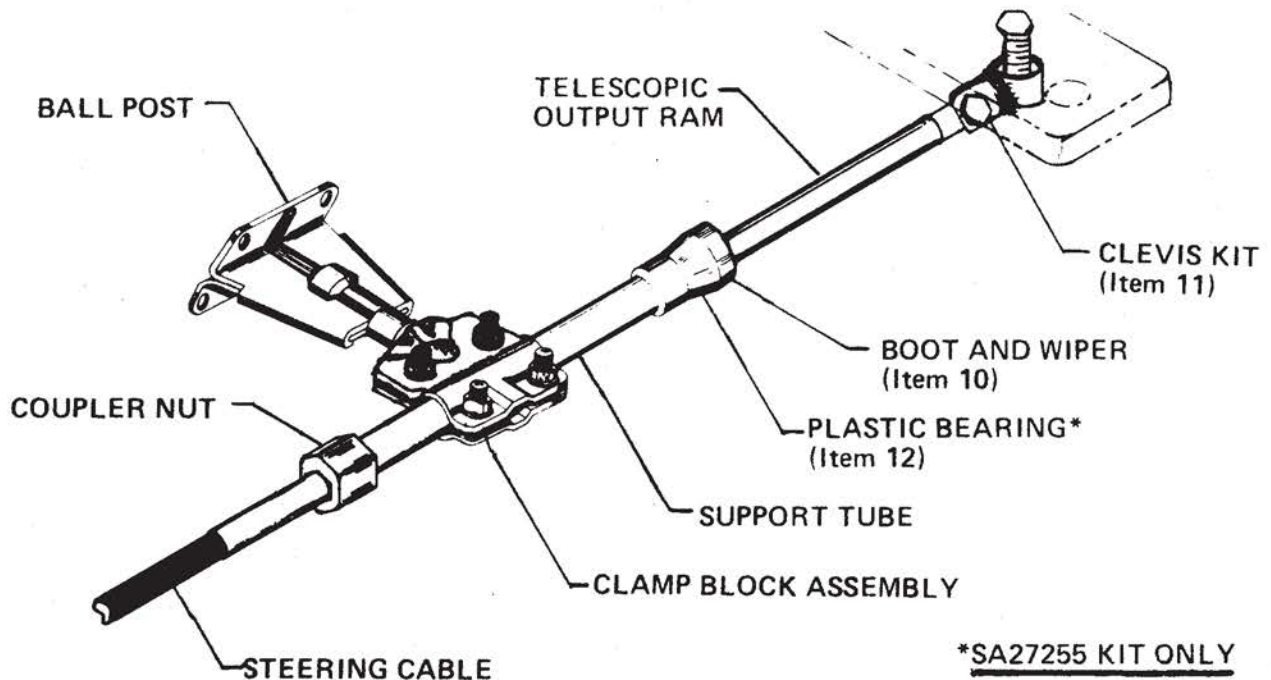

FIGURE 4
1. Insert telescopic end of Steering cable thru Support Tube (Item 9) as shown in Figure 4. Grip Support Tube with a strap wrench or equivalent tool which will not cause surface damage to or collapse tube.
4. Slide Boot and Wiper Assembly (Item 10) over telescopic output ram and press firmly over end of Support Tube (Item 9) until fully seated. See Figure 4.